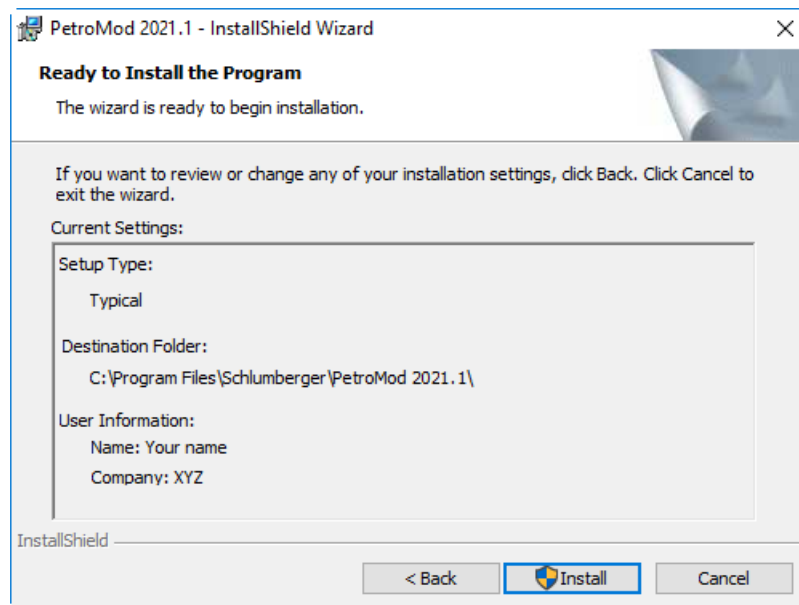

Fig. 3-4 Summary of settings
- 5 A summary of the settings will be displayed (Fig. 3-4). Click **Install**.